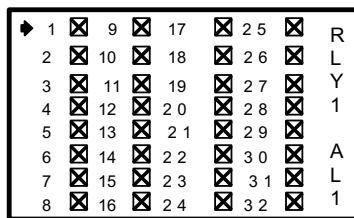

Figure 3-12 Select Channels Menu
- **Select Channels** brings up a Check Box (Figure 3-12) screen for assigning which of the Active Channels are assigned to this relay. This allows creating Zones among the active channels.